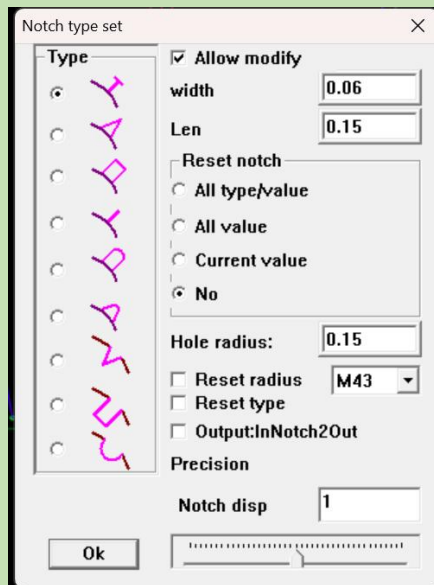

Figure10-12
1) As shown in Figure 10-12, in the setting menu - Notch Type, select the type and width, and then confirm.